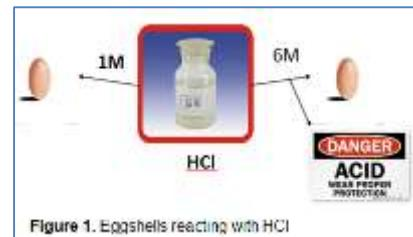

Figure 1. Eggshells reacting with HCl
- Be able to list and rationalize the factors that affect the rates of reaction such as that shown in Figure 1.